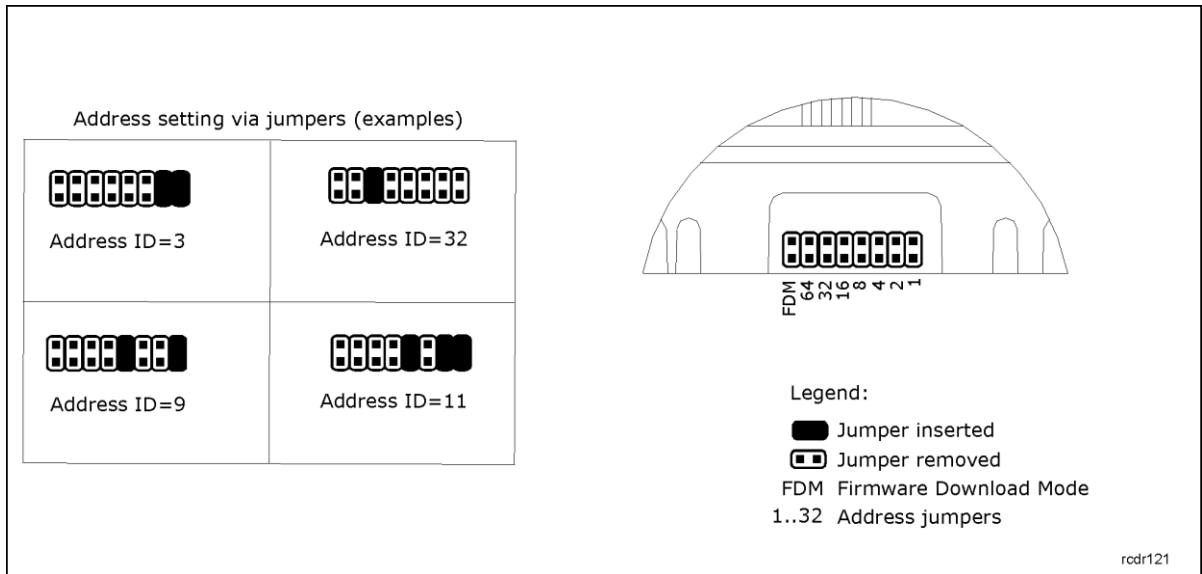

Fig. 14 Addressing jumpers
The address of controller can be set by means of jumpers – see fig. 14. Each time the new address is configured, controller must be restarted (via RESET button or powering device off and on) to make new settings valid. The address range is 00..127 and if the address is in range 100..127 then the controller ignores such setting and all other addressing methods can be used. If the address is in range of 00..99 then it has the highest priority, FixedID is not effective, and the address cannot be changed by PR Master software nor manually during Memory Reset procedure.
- Place jumper on FDM pins (see fig. 14)